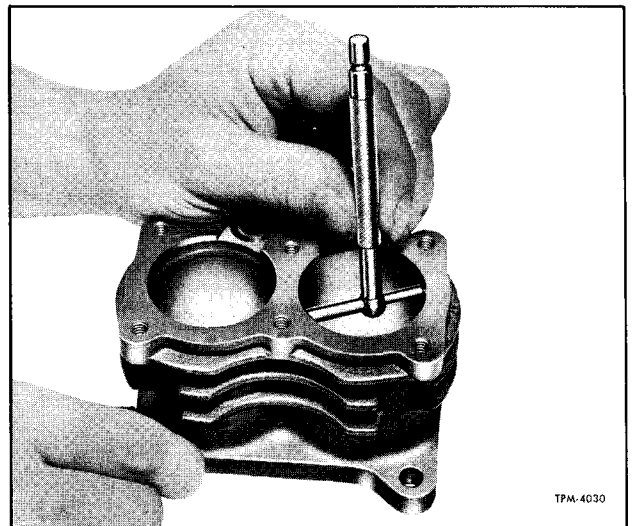

Figure 10—Measuring Cylinder Bore Diameter
7. Cylinder Block (Fig. 10). Use telescoping gauge to check bores for out-of-round and taper. Bores which are scored or out-of-round more than 0.002" or tapered more than 0.003" must be re-bored, honed, or ground oversize. Pistons and rings 0.010", 0.020", and 0.030" oversize are available. Cylinder bores must be smooth, straight, and round